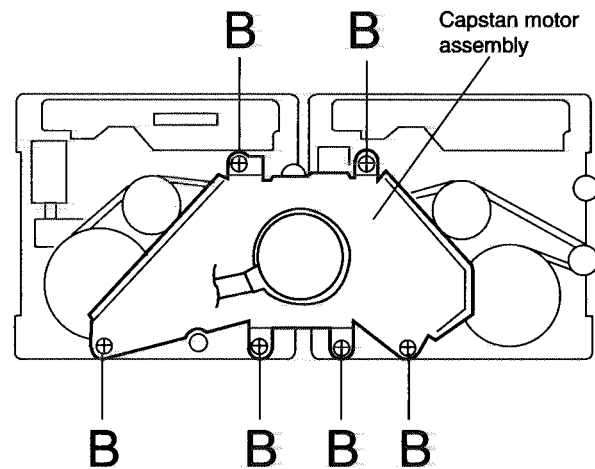

Fig.5
1. Remove the six screws "B" retaining capstan motor assembly (See Fig. 5).